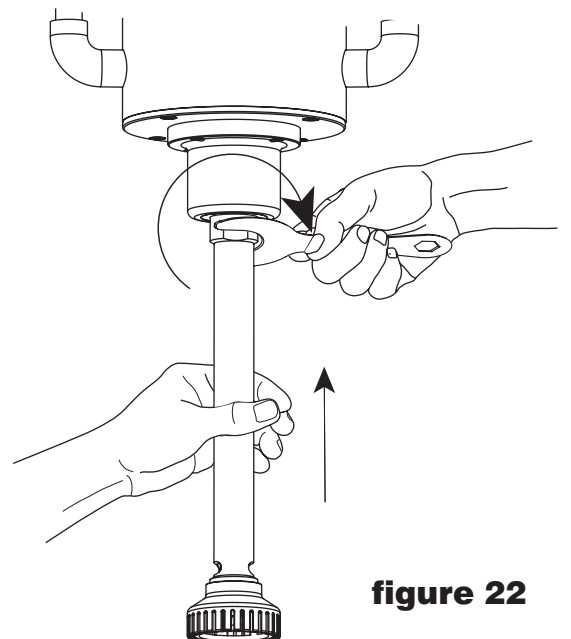

figure 22
4) Screw the impeller onto the mixing head using the spanner (Fig. 22)